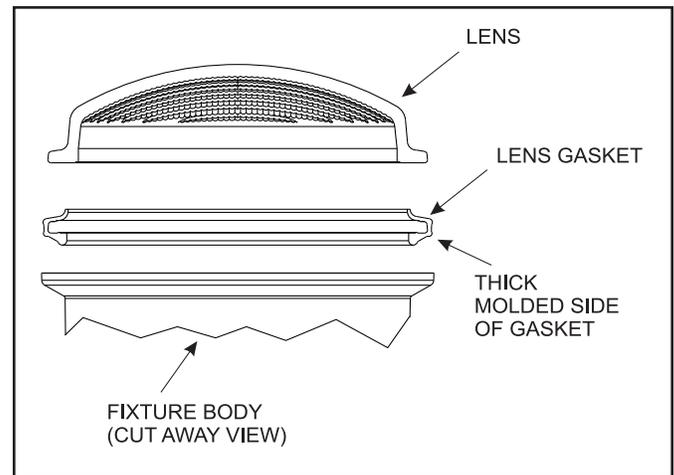

Figure 7. Install Thick Molded Side of Lens Gasket Towards Fixture Body
2. If not already done, install the new lens gasket on the lens. Please note that the lens gasket is not symmetrical. Therefore, it must be installed correctly so that the lens can seal to the fixture body. Place the lens gasket on the lens so that the thick molded side of the gasket will mate with the body of the fixture when the lens is installed. See Figure 7.